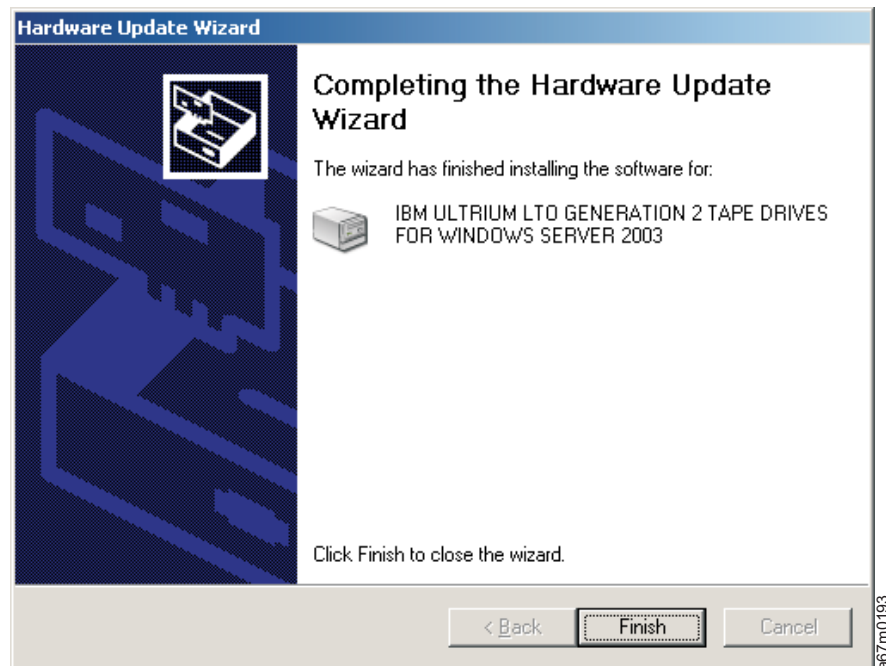

Figure 41. Completing the Hardware Update Wizard
4. You will be prompted to complete the installation. Click **F**inish. See Figure 41 on page 251.